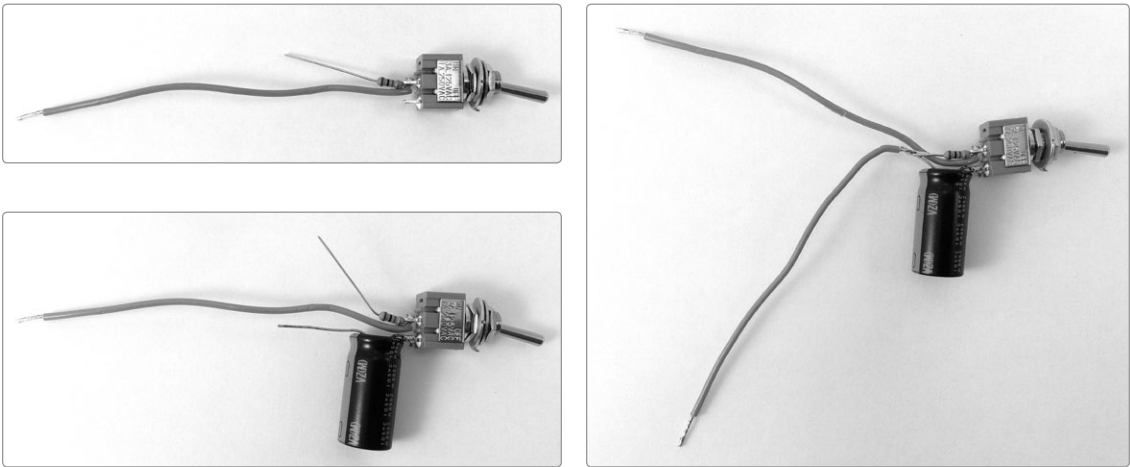

FIGURE 13-4: *Building the waveform selector*
- Step 3** Next, we'll work on the waveform selector. Take a prepared 4-inch wire and a 1k ohm resistor, and twist together the end of the wire and one leg of the 1k ohm resistor. Grab a toggle switch and solder this twisted pair to either of the lugs, as shown in Figure 13-4 (top left).
- Step 4** Solder the positive leg of the big 3300 μF capacitor to the switch's other lug, as shown in Figure 13-4 (bottom left). Remember that the negative leg is marked with a stripe on the body of the capacitor; the positive leg is thus the one farther from the stripe.
- Step 5** Finally, twist together the capacitor's negative leg (the one aligned with the stripe), the remaining resistor leg, and another 4-inch insulated lead, and solder the connection. Figure 13-4 (right) shows the result.